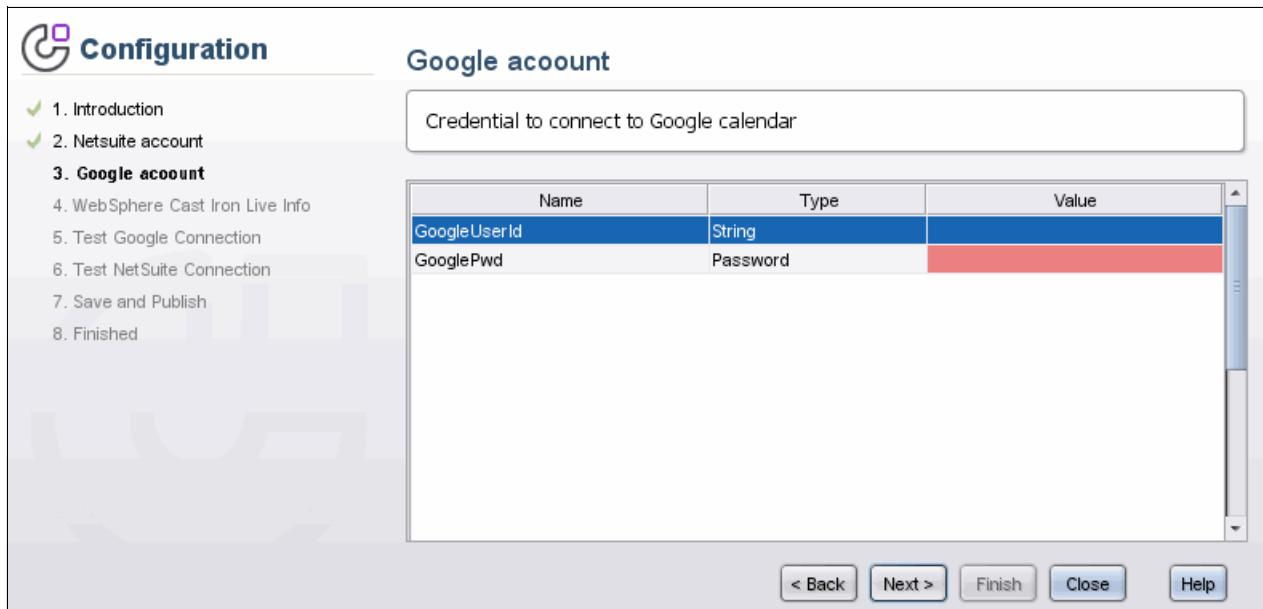

Figure 11-10 TIP configuration wizard step 3: Google account details
- In step 3, enter the Google account details, as shown in Figure 11-10 on page 441, and then click **Next**.